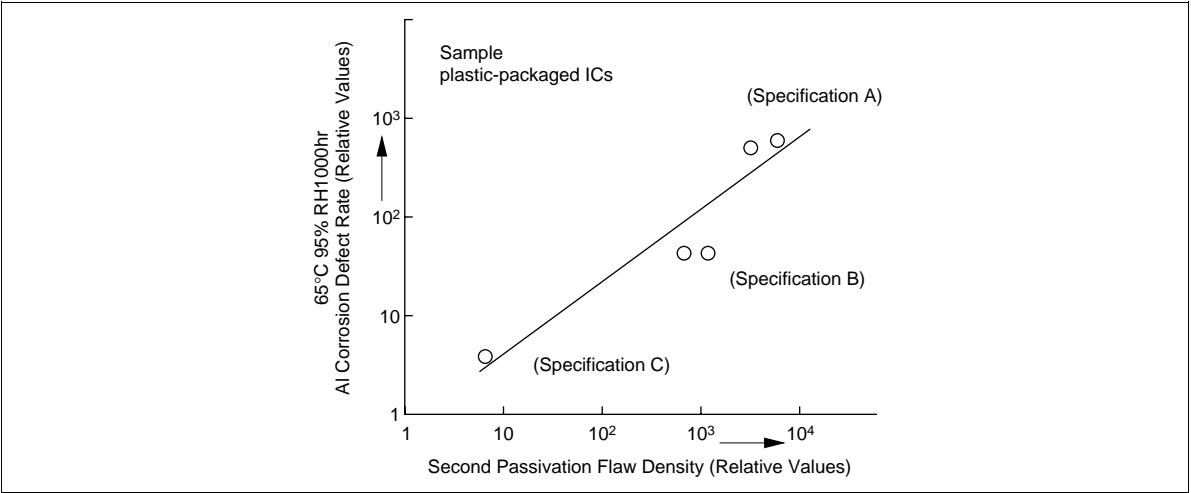

Figure 6 Passivation Flaw Density and Moisture Resistance
1. PSG (phospho-silicate glass) for use as first and second passivation and inter-layer insulating film has been improved to provide better prevention of external contamination (improving the getter effect with respect to Na^+ ions) and moisture resistance (see figure 6).